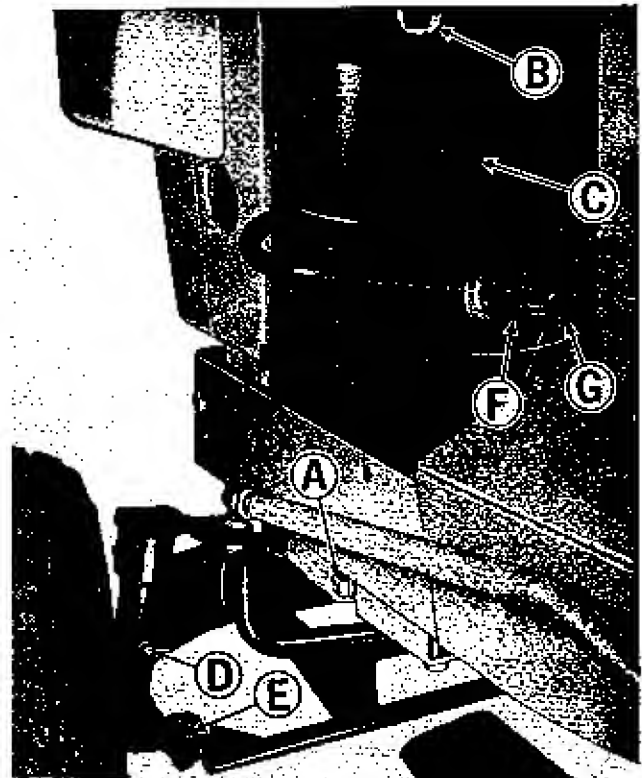

Figure 22. Left front of tractor.
2. See figure 22. Remove the drain plug (A) from the bot-
1. See figure 22. Remove the wing nut (B) and cover (C) from the air cleaner unit.
5. See figure 22. Replace the air cleaner cover (C) and fasten it securely with wing nut (B).
Left Spindle	Figure 22, Item D
Left Tie Rod End	Figure 22, Item E
1. See figure 22. Remove wing nut (B) and cover (C) from the air cleaner.
7. See figure 22. Replace cover (C) and wing nut (B) and tighten securely.
REPLACE FUEL FILTER: See figure 22. Every 100 hours or more often under dirty field conditions, the fuel filter (F) should be replaced. **CAUTION: DO NOT REMOVE THE FUEL FILTER WHEN THE ENGINE IS HOT, AS SPILLED GASOLINE MAY IGNITE. USE CARE WHEN REMOVING AND INSTALLING CLAMPS (G), NOT TO SPREAD THEM ANY MORE THAN NECESSARY AS THEY MAY TAKE A SET AND NOT HOLD THE HOSE TO THE FILTER PROPERLY.**